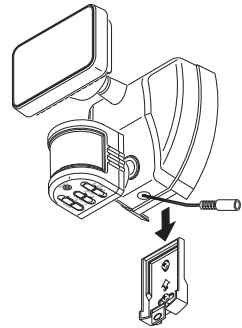

Figure 3
3. Slide the rear of the light fixture down onto the mounting plate until it snaps into place (see Figure 3).